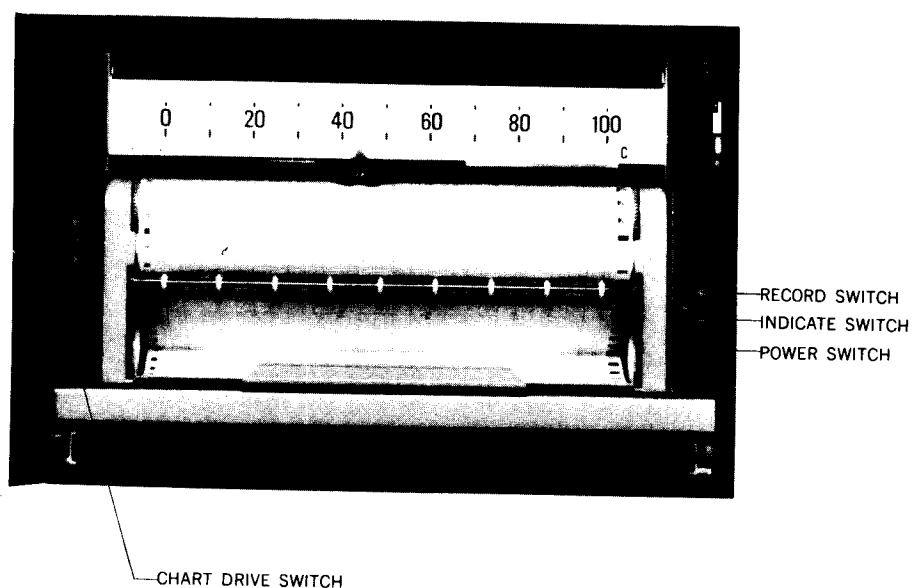

Figure 3-3. Front Panel Controls for RD250 6 and 12 Channel Multipoint Recorders.
3.3 OPERATING PROCEDURE FOR RD250 6 and 12 CHANNEL MULTIPOINT RECORDERS (SEE FIGURE 3-3).